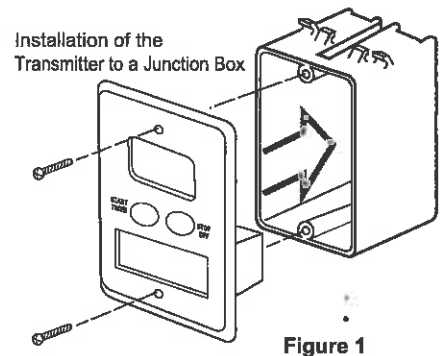

Figure 1
#### A. Flame On/Off (see figure 1)
#### B. Setting: (see figure 1)
- Use the screws provided to secure the face Plate to the wall mount transmitter. See *Figure 1*.